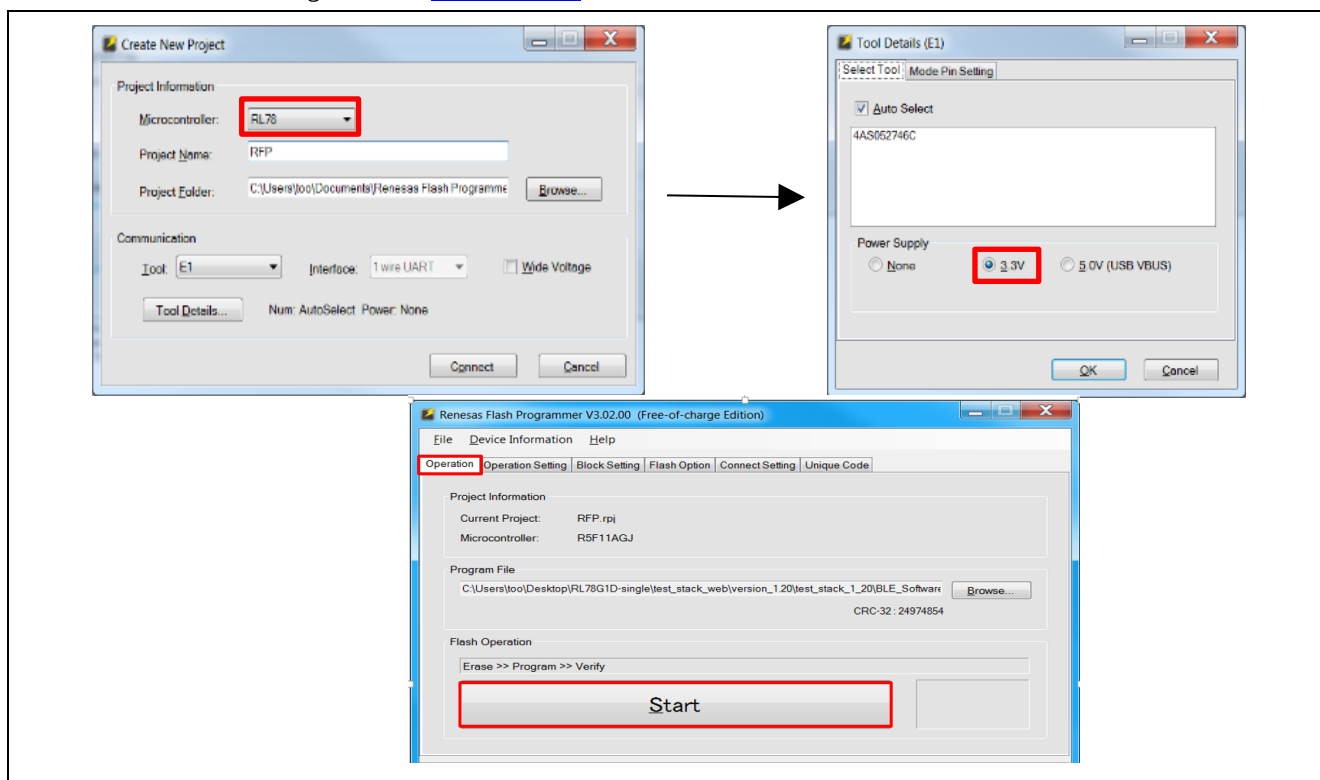

Figure 12 Renesas Flash Programmer
- Step 2.** To program RL78/G1D Beacon project output (R5F11AGJ_Beacon_SPB.hex), launch the Renesas Flash Programmer (RFP). See Figure 12 for applicable screens.